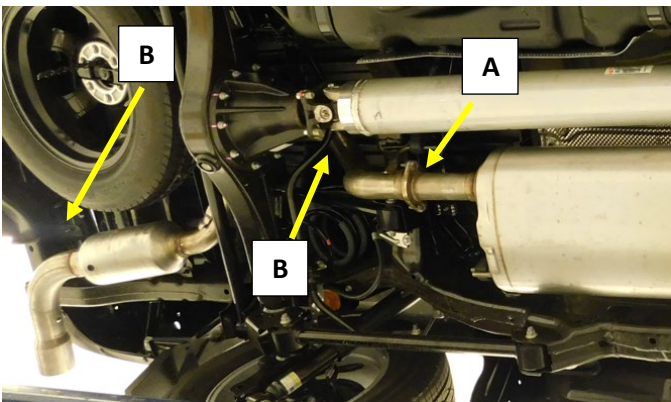

Figure.1
4. Remove the (2x) 14mm nuts from the tail pipe flange connection (A) just after the OEM muffler. Remove the Rubber hanger isolators (B) from the hanger rods and remove the OEM tail pipe. **Fig.1**